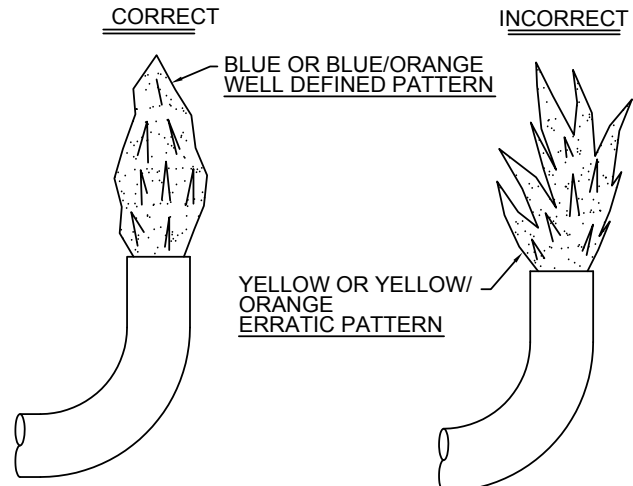

Figure 8
A. Main Burner: Do not allow the burner to burn with a yellow flame, because sooting will occur. (See Safety Warnings). If the burner flame is yellow and has an erratic pattern, shut unit down and contact a qualified service agency. Do not continue operating unit with improper burner flame. (See Figure 8 for correct and incorrect burner flame appearance.)